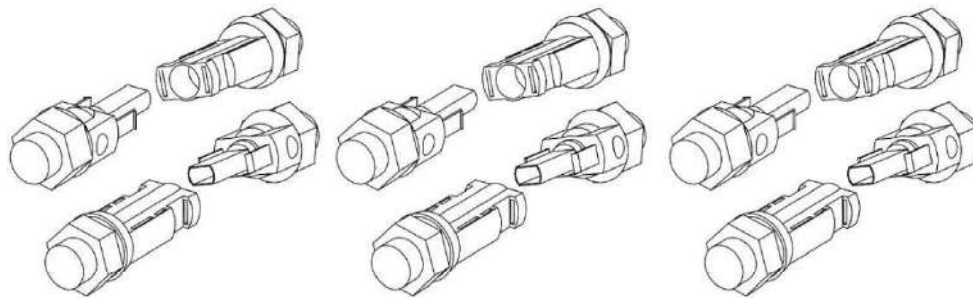

Figure 2.15 The DC connector is inserted into the positive and negative input of the hybrid inverter equipment.
4. Finally, insert the photovoltaic DC connector into the positive and negative input of the Hybrid inverter, as shown in figure 2.15.